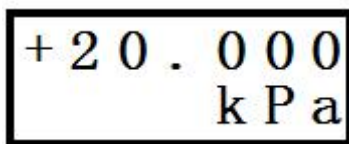

Fig.40
③ Press either the "left" or "right" key once to enter data editing mode; a flashing cursor will appear on the monitor.
④ Press the "left" key four times to move the cursor to the digit "4";
⑤ Press the "right" key eight times to change the digit from "4" to "2", as shown in Figure 40.
- ① Set the pipeline differential pressure to 0 kPa; then, the display will show +0.1 kPa .
- ② Launch the menu, navigate through the menu, and select "SHIFT". The "ZERO" menu is displayed on the monitor as shown in Figure 40 .
- ④ Enter the "Confirm" key once to clear the prompt message. It will return to the menu browsing state, and the monitor will display as shown in Figure 40.
- ⑤ Set the pipeline differential pressure to 0 kPa;